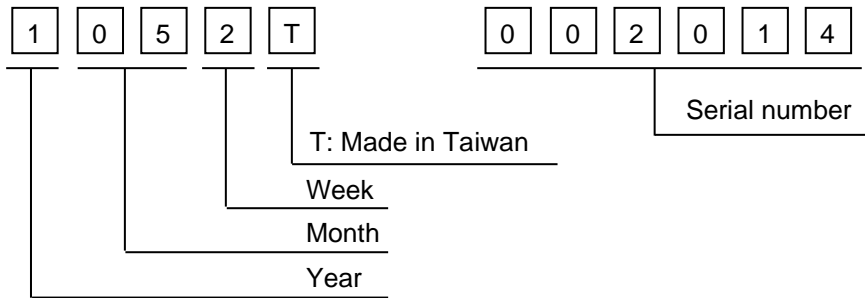

Fig 14.1
1) The lot mark is showing in Fig.14.1. First 4 digits are used to represent production lot, T represented made in Taiwan, and the last 6 digits are the serial number.